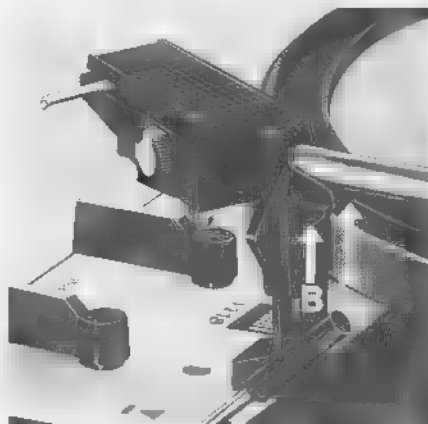

Fig. 18
4. You can now get an exact balance by turning the counterbalance. The tonearm is precisely balanced when edge "A" of the tonearm head and edge "B" of the tonearm rest are at equal height (Fig. 18)